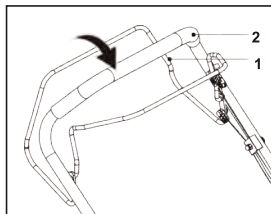

Fig. 13
1. Push the self-propelling lever (1) forward and hold it against the upper handle bar (2) to engage the rear wheels (Fig. 13).
2. Release the self-propelling lever (1) to disengage the rear wheels.